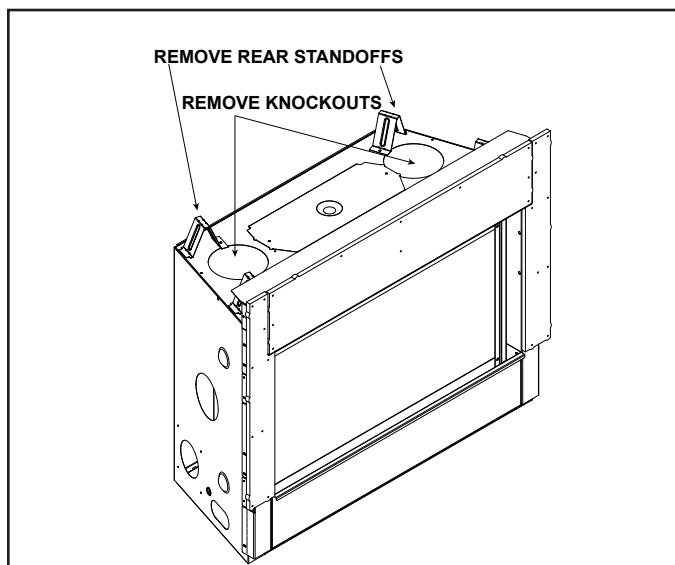

Figure 8 Remove Knockouts
1. Remove rear standoffs and discard. See Figure 8.
2. Remove both top knockouts from outer wrap as shown in Figure 8. Discard knockout piece and ensure no other material or debris is blocking the hole created by removing the knockout.